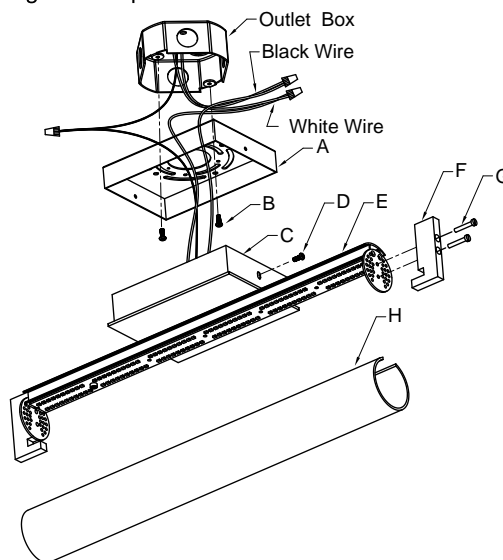

Fig.2
CONNECTING THE WIRES (FIG. 2)
4. At this point, connect the electrical wires as shown in Fig. 2, making sure that all wire connectors are secured. If your outlet has a ground wire (green or bare copper), connect the fixtures ground wire to it. Otherwise, connect the fixture ground wire directly to the back plate (A) using the green screw provided. After wires are connected, tuck them carefully inside the junction box.
5. Place the fixture's back plate (C) over the mounting back plate (A) and secure with screws (D) (Size: M4*8MM).